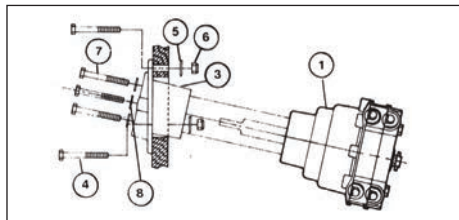

Figure 4. (Parts list on page 6)
Secure the helm mounting bracket (item 3) in position using hex bolts (item 4), large flat washers (item 5) and locknuts (item 6). Tighten securely, see Figure 4.
Insert shaft of helm (item 1) through hole in the mounting bracket orienting it in the proper direction for the steering cable entry. Attach the helm securely to the mounting bracket using hex bolts (item 7) and washers (item 8) threaded into the helm. See Figure 4.